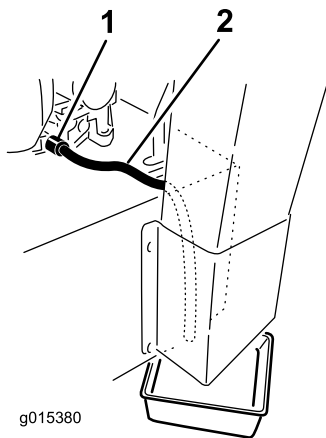

Figure 32
**Note:** Rotate the oil-drain valve to allow oil to drain (Figure 32).